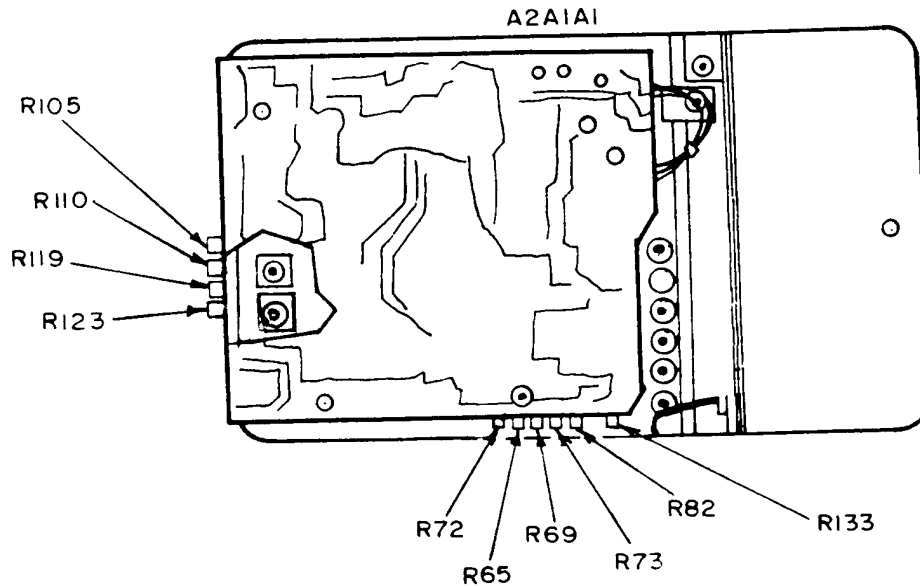

Figure 8. MM-100E multimeter - rear view.
³If out-of-tolerance, adjust calibrator for 10.0000 and adjust A2A1A1R82 (fig. 8) for 10 V indication on multimeter. (R)
¹If required, readjust A2A1A1R123 (fig. 8) for best in-tolerance indication (R).
(13) Set TI multimeter **FUNCTION** switch to **HI-Z** and **RANGE** switch to **1V**.
(14) Connect calibrator to TI multimeter **INPUT**.
(15) Adjust calibrator frequency for 1 kHz frequency and output for a 1 V indication on TI multimeter. If calibrator does not indicate between 0.95 and 1.05 V ac, perform **b (6)** below.
(16) Repeat technique of (15) above for **RANGE** switch settings and calibrator frequencies listed in table 16. Calibrator will indicate within limits specified.
- (1) Adjust A2A1A1R65 (fig. 8) for 0 indication on multimeter.
- (2) Adjust A2A1A1R73 (fig. 8) for 0 indication on multimeter.
- (3) Adjust calibrator output for a 1.00000 indication. Adjust A2A1A1R69 (fig. 8) for a 1V indication on TI multimeter (R).
- (4) Adjust A2A1A1R119 (fig. 8) for ∞ (infinity) on TI multimeter (R).
- (5) Set resistance standard to 30 Ω . Adjust A2A1A1R123 (fig. 8) for 30 Ω indication on TI multimeter (R).
- (6) Adjust calibrator output for a 1 V indication. Adjust A2A1A1R72 (fig. 8) for a 1 V indication on TI multimeter (R).
- (7) Adjust A2A1A1R110 (fig. 8) for 6 dB indication on **SINAD** scale (R).
- (8) Adjust **1 kHz** control until audio analyzer indicates 10 percent distortion.
- (9) Adjust A2A1A1R105 (fig. 8) for 10 percent indication on TI multimeter (R).
- (10) Adjust A2A1A1R133 (fig. 8) for 60 percent indication on TI multimeter (R).